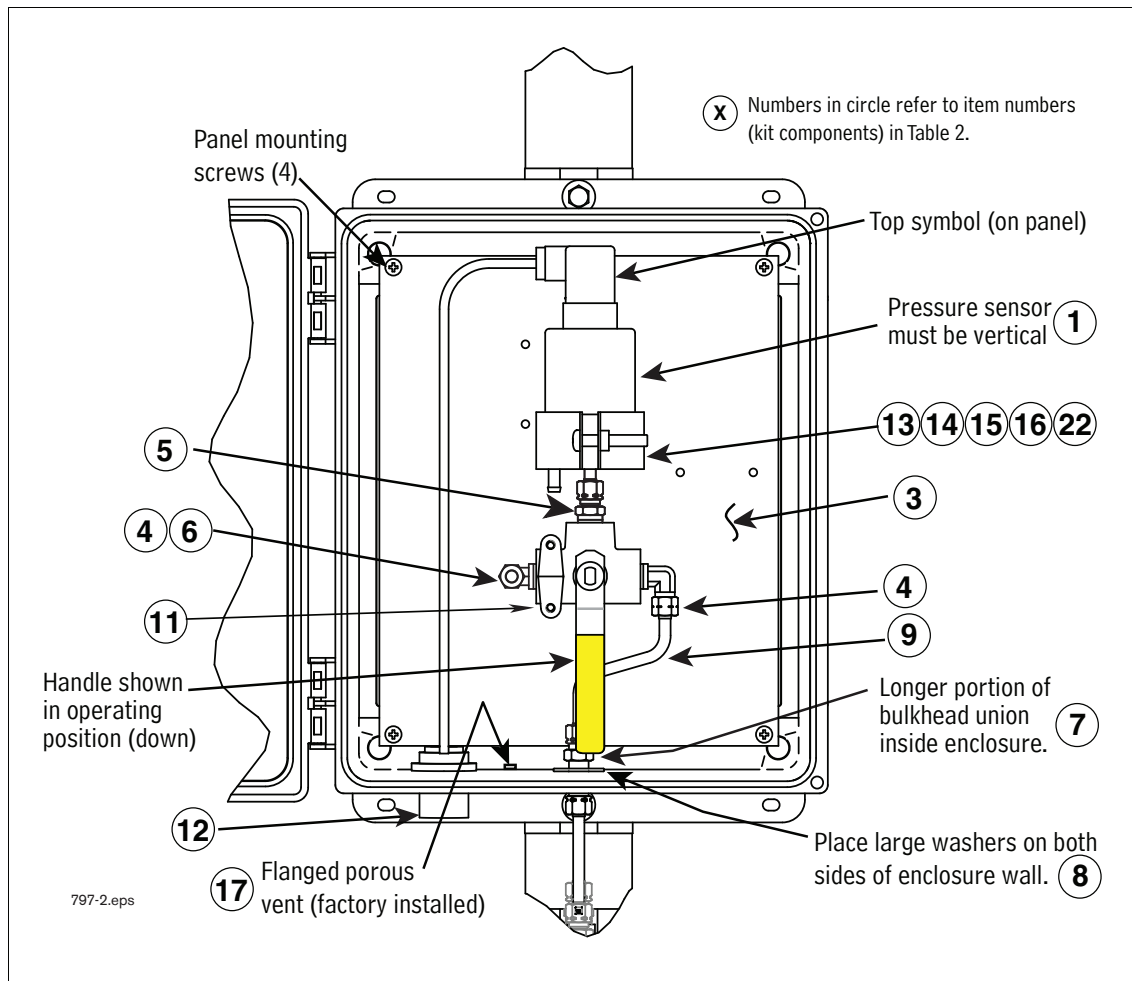

Figure 11. Mounting Pressure Sensor Assembly onto Composite Panel
4. Install the pressure sensor (item 1 in Table 2) vertically onto the center of the composite panel (item 3 in Table 2) using a 2-inch conduit clamp, rubber shim, and necessary bolts, nuts, and washers included in the kit. Be sure the top symbol on the panel is facing upwards (see Figure 11). Wrap the rubber shim (item 22 in Table 2) around the sensor before inserting it into the clamp. Also make sure the sensor cable outlet is facing up
5. Install two 169CA-4-4 male elbows (item 4 in Table 2) into each end of the 3-way calibration valve (item 11 in Table 2) as shown (see Figure 11).
7. Screw the 59CA-4 plug (item 6 in Table 2) onto the left port's male elbow (see Figure 11).
9. Install the composite panel into the enclosure (item 2 in Table 2) such that the sensor cable outlet is facing up and the pressure sensing port tube in the base of the sensor is facing down. The top symbol on the panel should be facing upward. Use the four short screws included in the enclosure hardware bag.
10. Make sure that the white flanged porous vent (factory installed - item 17 in Table 2) is still securely installed into the hole in the bottom of the enclosure (see Figure 11).
11. Insert the S-bend 1/4" OD copper tube (item 9 in Table 2) into the right-side male elbow of the 3-way calibration valve, but do not fully tighten the compression nut (see Figure 11).
12. Locate the 62CABH-4 bulkhead union (item 7 in Table 2) and remove the compression nut and the adjustable nut then place a large washer (item 8 in Table 2) against the fixed, integral body nut. Slide the compression nut that was removed onto the bottom portion of the S-bend tube.
15. Fully tighten the compression nuts to connect the S-bend tube to the union and to the male elbow. Tighten the sensor conduit clamp screw to secure the sensor in its final vertical position (see Figure 11).